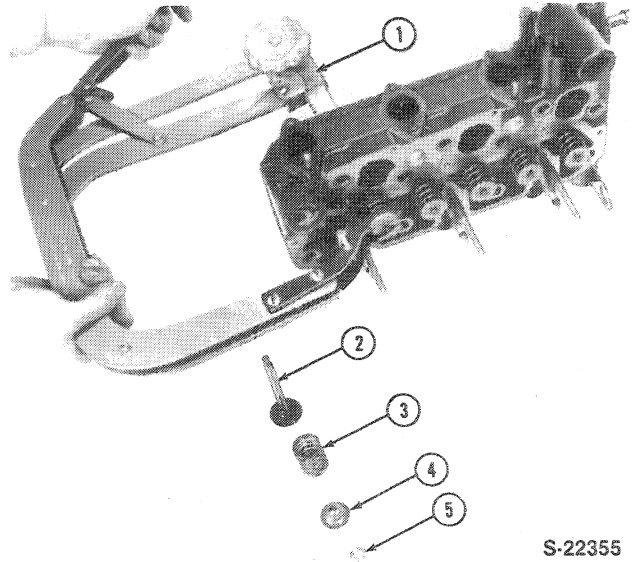

Figure 13
- Use a valve spring compressor and remove the valve spring retainer locks, spring and spring retainer from the valves, Figure 13.